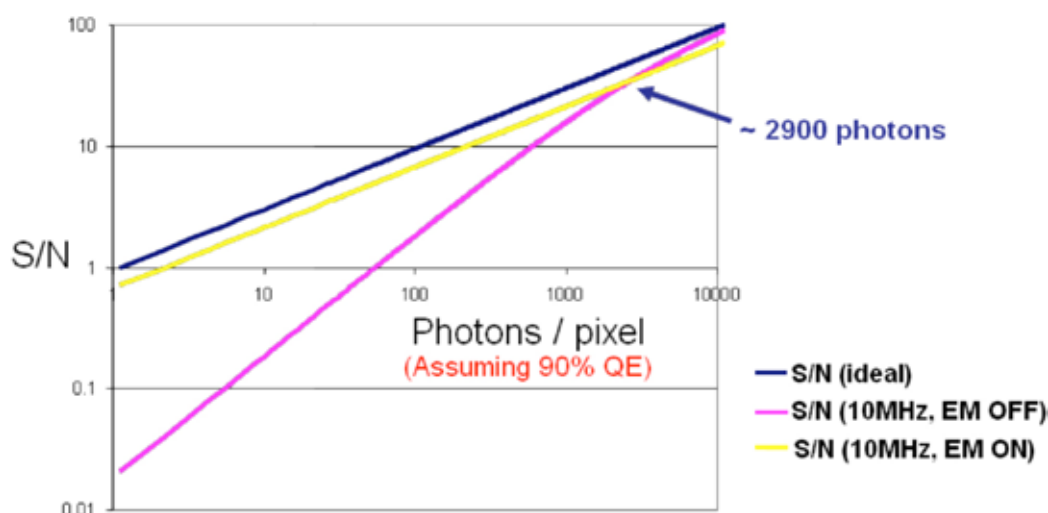
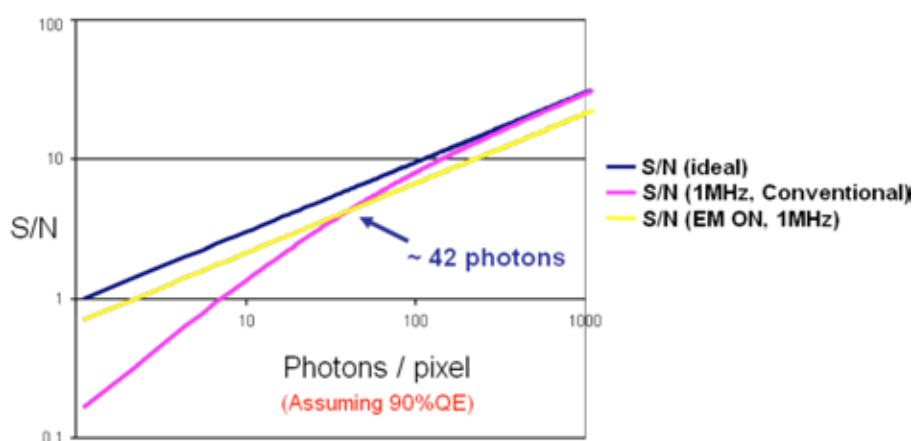

Figure 13: EM Gain ON vs. EM-Gain OFF signal to noise plots for back-illuminated iXon3 EMCCDs at 10MHz readout speed (applies to 897, 860 and 888 models).
Figure 14: EM Gain ON vs. Conventional Amplifier signal to noise plots for back-illuminated iXon3 EMCCDs at 1MHz readout speed (applies to 897 and 888 models).
Figure 13 below shows **Signal to Noise (S/N)** plots derived from the specifications of the back-illuminated iXon3 EMCCDs, read out at 10MHz for a photon wavelength at which the **Quantum Efficiency (QE)** of the sensor is assumed to be 90%. Such plots are very useful to gauge at what signal intensity it becomes appropriate to use EM Gain to increase S/N.
Figure 14 below shows S/N plots derived from the specifications of the back-illuminated iXon3 EMCCDs at 1MHz (slower frame rate operation), read out either with EM Gain ON or alternatively through the conventional amplifier (i.e. standard CCD operation). Again, this plot assumes a photon wavelength at which the QE of the sensor is 90%. Specifically this figure applies to 897 and 888 models where the user has the choice of either EMCCD or conventional amplifiers.
- Do not use EM gains greater than necessary to overcome the read noise (please refer to **figure 13** on **page 25** and **figure 14** on **page 26**). A rule of thumb is that a gain of x4 or 5 the root-mean-square read noise (accessible from the performance sheet) is more than sufficient to render this noise source negligible. In practice, this can always be achieved with EM Gain of less than x300 (often much less). Pushing gain beyond this value would give little or no extra S/N benefit and would only reduce dynamic range.